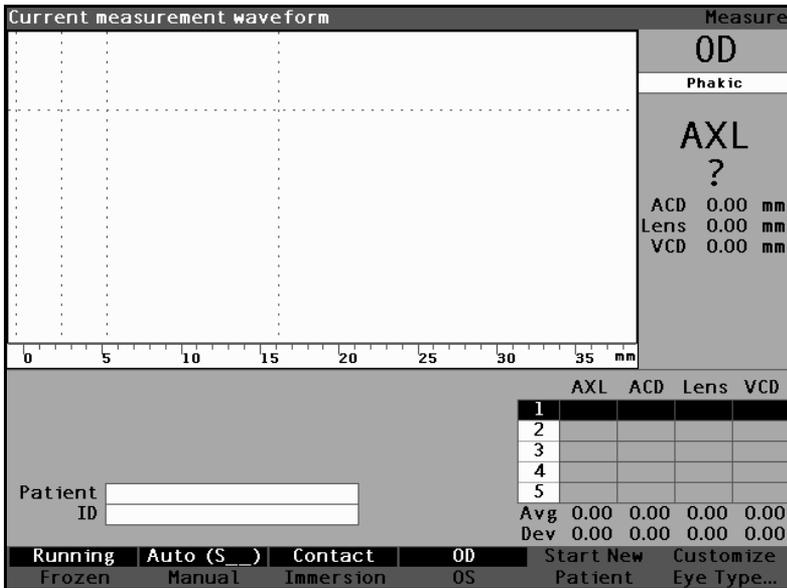

Figure 19 Measure Screen Starting New Patient
1. Press the button under the "Start New Patient" selection on the Measure, Calculate IOL or Patient Records Screens. Refer to Figure 19 below.